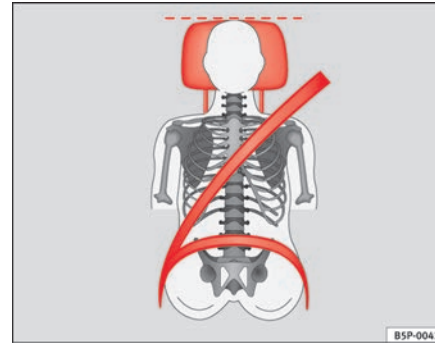

Fig. 12 Correct belt web and head restraint positions, viewed from front
- The shoulder part of the seat belt must lie on the centre of the shoulder, never across the neck. The seat belt must lie flat and snugly on the torso ⇒ page 24, fig. 12.